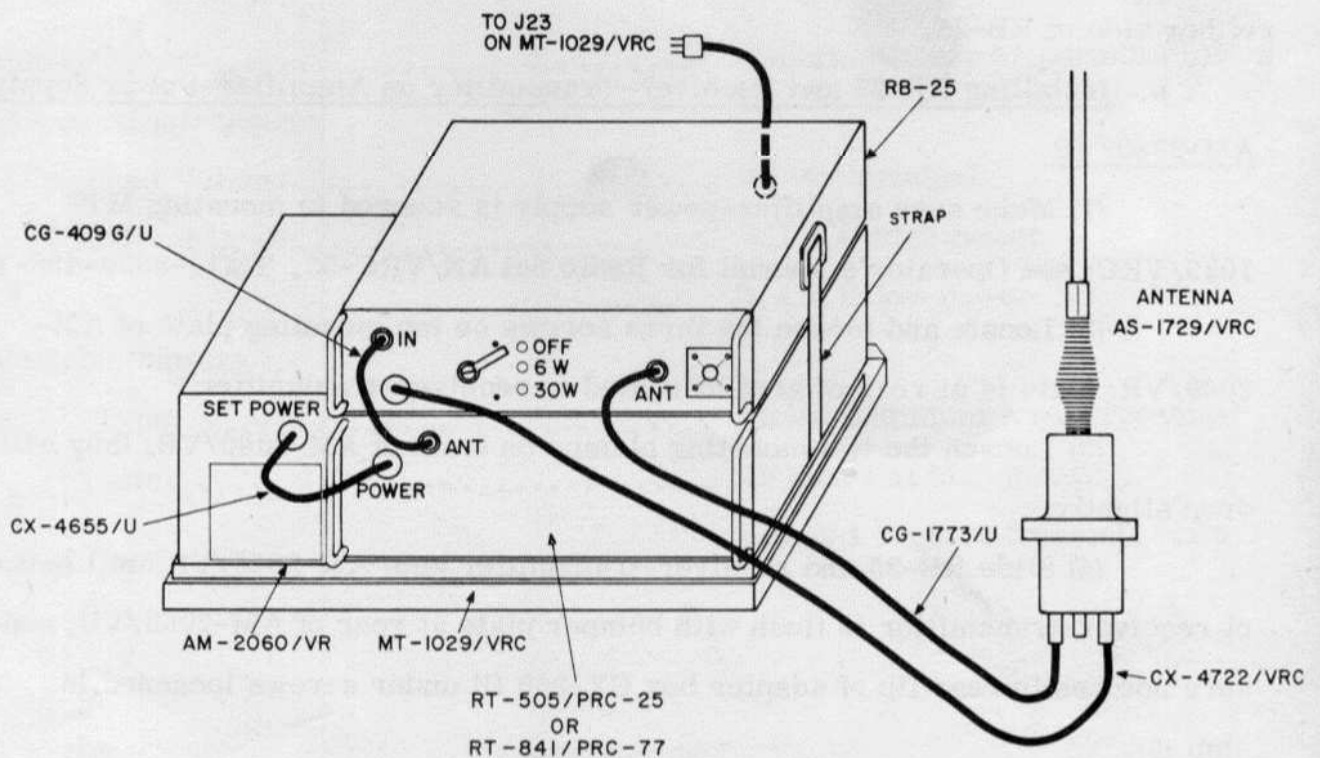

Figure 2-1. Interconnection.
(1) Make sure amplifier-power supply is secured to mounting MT-1029/VRC; see Operator's Manual for Radio Set AN/VRC-53, TM11-5820-498-10.
(2) Locate and loosen the three screws on top mounting plate of AM-2060/VR; plate is at rear of area allocated to receiver-transmitter.
(3) Loosen the two mounting clamps on front of AM-2060/VR; they will drop slightly.
(4) Slide RB-25 and receiver-transmitter onto AM-2060/VR until bottom of receiver-transmitter is flush with bumper plate at rear of AM-2060/VR; make sure notches in rear lip of adapter box CY-250 fit under screws loosened in step (3).
(5) Raise mounting clamps until they engage lips on front panel of receiver-transmitter, and tighten clamps.
(6) Tighten the three screws on top mounting plate of AM-2060/VR.
c. Interconnection. (fig. 2-1)
- (1) Connect cable CX-4655/U (supplied with the AM-2060/VR) between POWER jack on receiver-transmitter and SET POWER jack on AM-2060/VR.
- (2) Connect r-f cable CG-1773/U between ANT jack on RB-25 and antenna matching unit.
- (3) Connect r-f cable CG-409G/U between IN jack on RB-25 and ANT jack on receiver-transmitter.
- (4) Connect control cable CX-4722/VRC between multi-pin jack on front panel of RB-25 and antenna matching unit.
- (5) Connect power cable between connector at rear of RB-25 and jack J23 on mounting.
- (6) Make sure mounting is connected to vehicle battery through cable connected to jack J21.